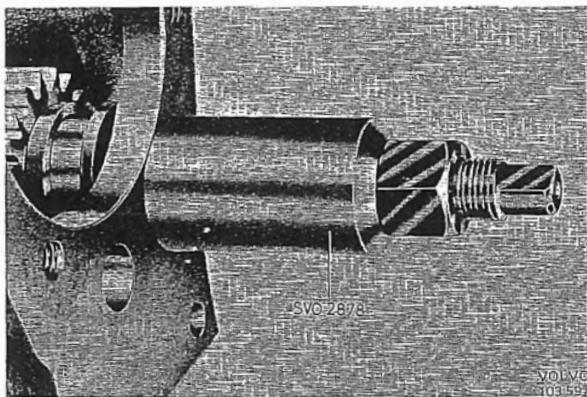

Fig. 4-14. Removing reverse gear
11. Take out the idler gear. Pull out the shaft for the reverse gear with puller 2878, see Fig. 4-14. Take out the reverse gear and other parts.